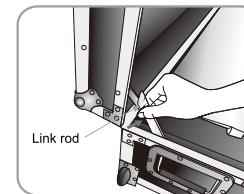

Figure 41
9. Pull up the flight case corner link rod, close the flight case and fasten it ( Figure 41 - 42 ).